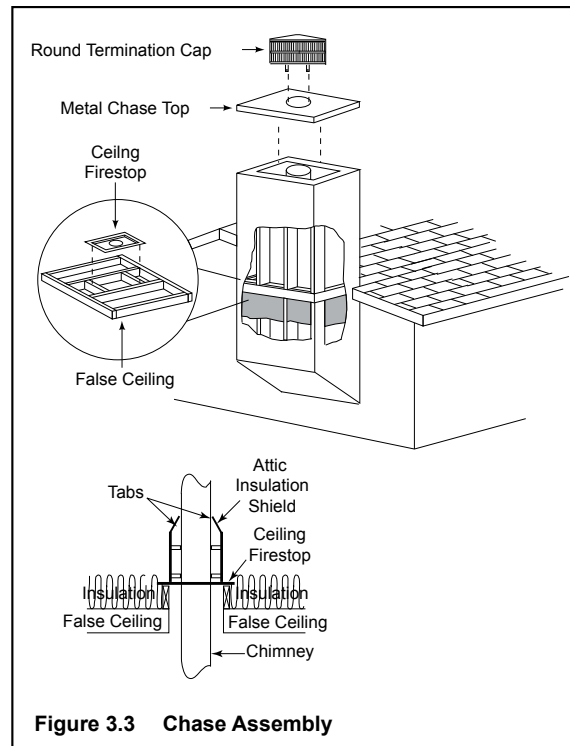

Figure 3.3 Chase Assembly
Walls, ceiling, base plate and cantilever floor at the first level of the chase should be insulated (see Figure 3.3.)
- In cold climates, the walls of the chase should be insulated to the level of the false ceiling as shown in Figure 3.3. This will help reduce heat loss from the home around the fireplace.